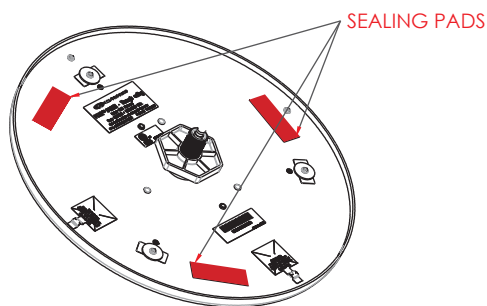

FIGURE 1
- 1 Remove the three 'through ceiling hole' sealing pads from the bottom plate as outlined in figure 1.